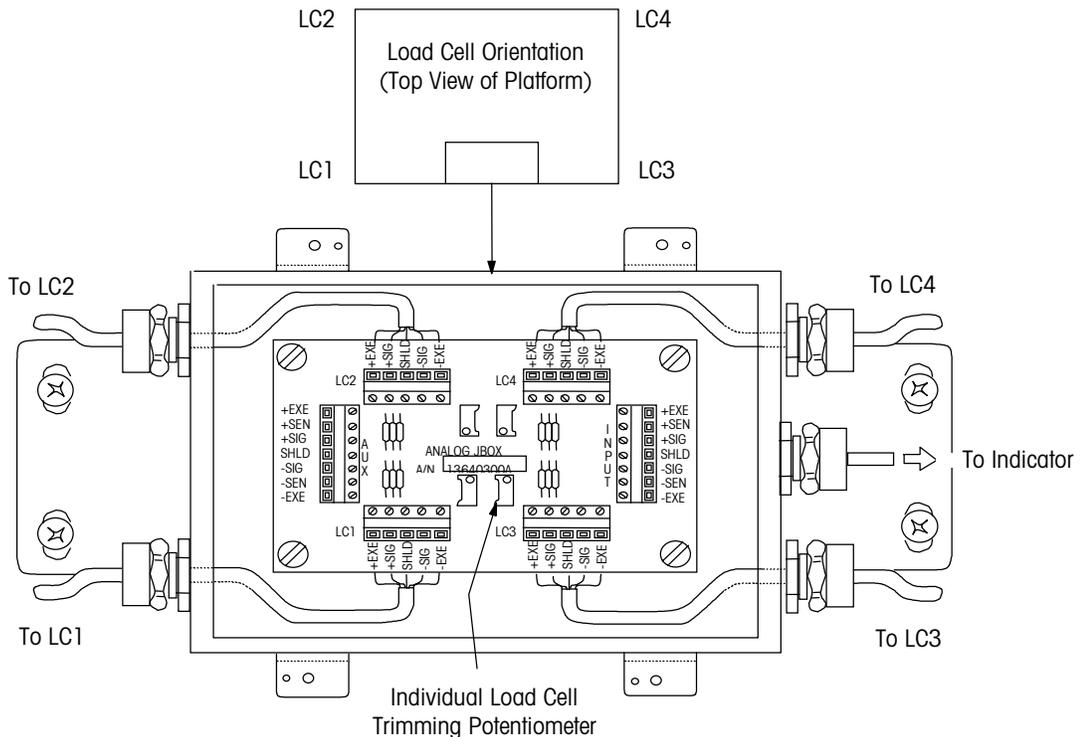

Figure 8-2: Load Cell Trimming Potentiometers
- Place the test weight at the location immediately clockwise from the location at which you got the lowest weight reading. Then adjust the trimming potentiometer for the load cell that corresponds to the corner of the scale where the test weight is positioned (see Figure 8-2). Make the adjustment by turning the potentiometer until the weight reading matches the lowest reading.